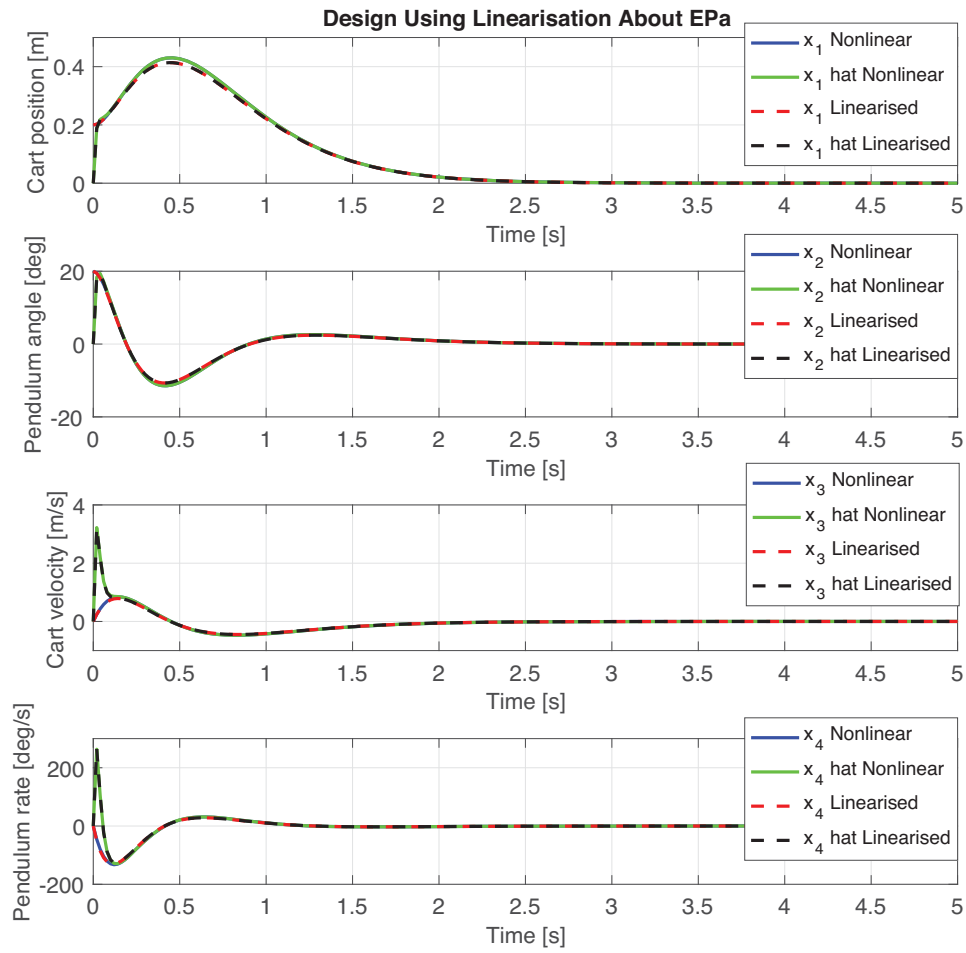

Figure 4: Time histories of the system states and the state estimations.
- f) Plot the results of the simulations in a figure that shows the time histories of the position of the cart, the angle of the pendulum, the velocity of the cart, the angular velocity of the pendulum and the estimation of the states for both the linearised and nonlinear control systems. An example of the simulation results is shown in Figure 4.